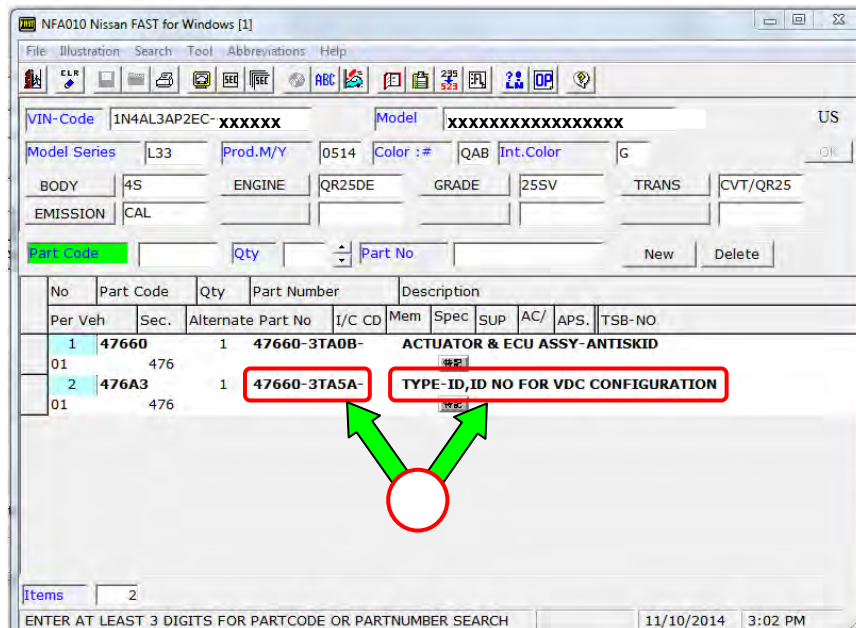

Figure C9
- Refer to FAST or equivalent electronic parts catalog (see Figure C9 below).